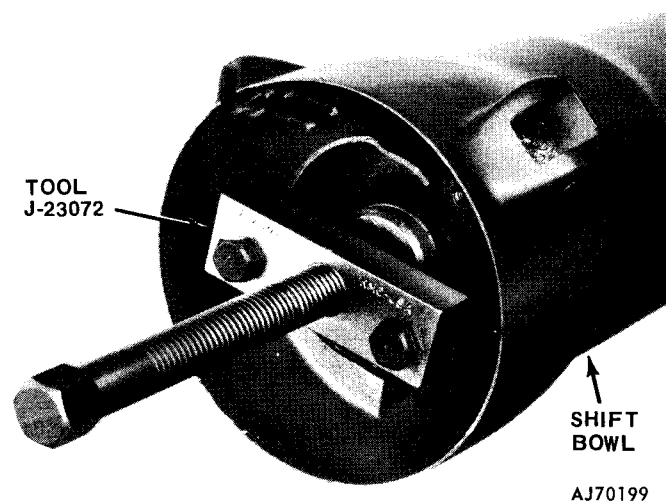

Fig. 11-42 Shift Tube Removal
- (38) Remove lock rack and rod.
- (39) Remove lower bearing retainer snap ring, retainer, bearing, and adapter.
- (40) Remove upper support attaching screws and upper support. Remove shift gate pin and shift gate.
- (41) Remove shift tube retainer ring and thrust washer.
- (42) Remove shift tube using Shift Tube Remover Tool J-23072 (fig. 11-42).